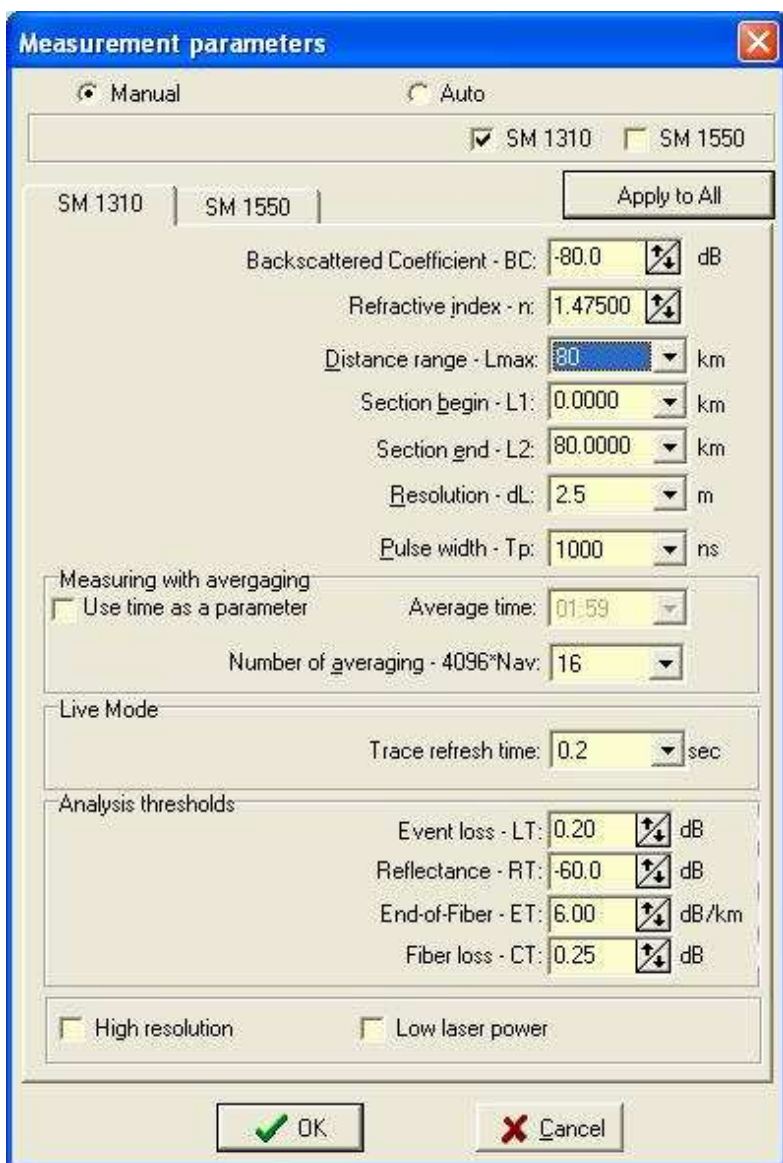

Figure 4.1
**4.1.1** Before starting the measurement process, it is necessary to set up its parameters. Select the **Measurement** → **Parameters** menu or press  button of the buttons menu. The dialog box shown in **figure 4.1** is displayed afterwards in which it is necessary to set up numerical values of the appropriate parameters.